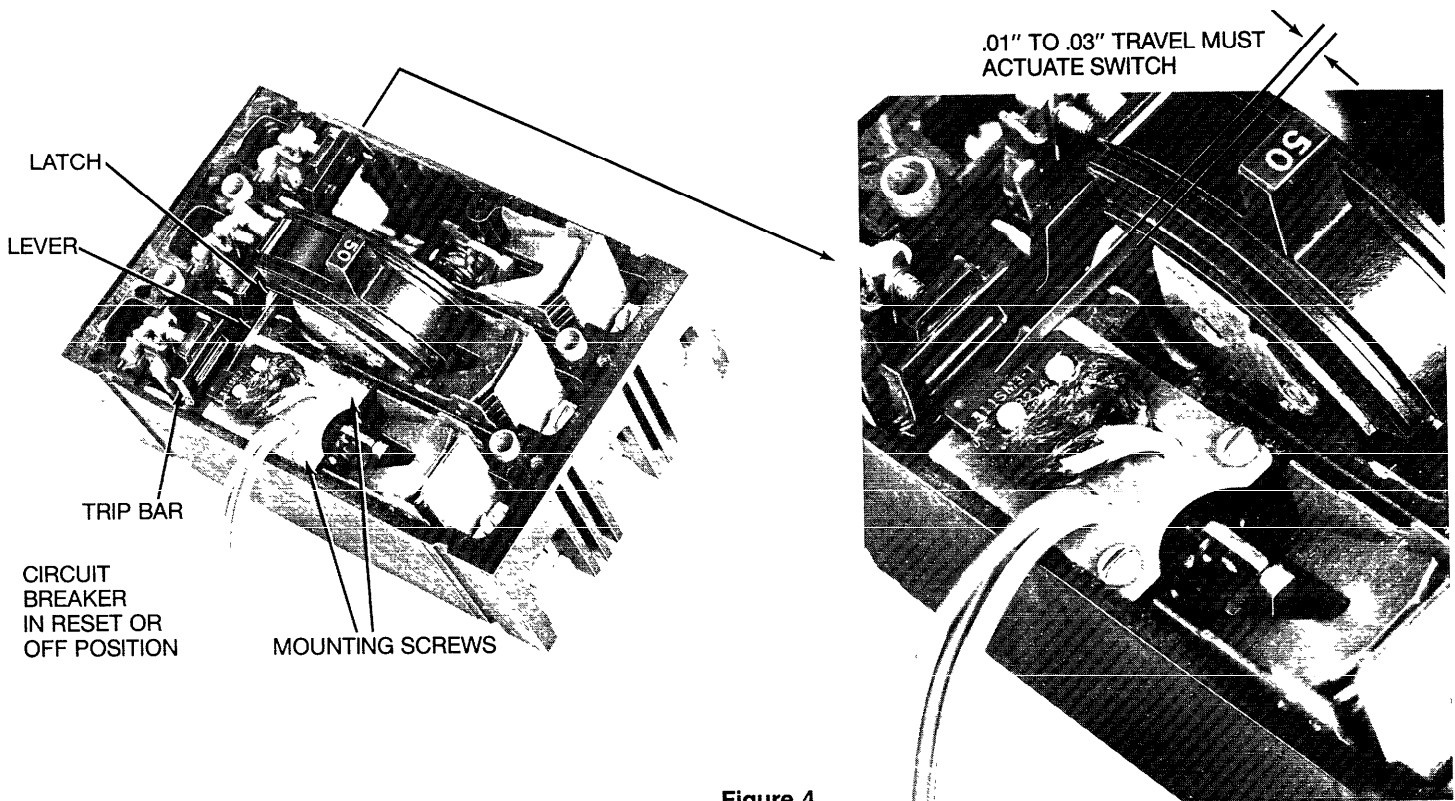

Figure 4
4. Install accessory as shown (Figure 4).
5. Adjust switch lever so that it actuates switch within dimension shown with circuit breaker in reset position. Trip the breaker by pushing trip bar forward. Switch should actuate. If not, readjust. (Figure 4).